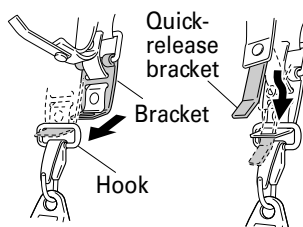

Fig. 13
- (3) To strap on the gardening appliance, insert the bracket in the hook and insert the quick-release bracket over the hook and into the wide opening of the bracket. (Fig. 13) Gently pull the shoulder belt to make sure that it is properly attached.